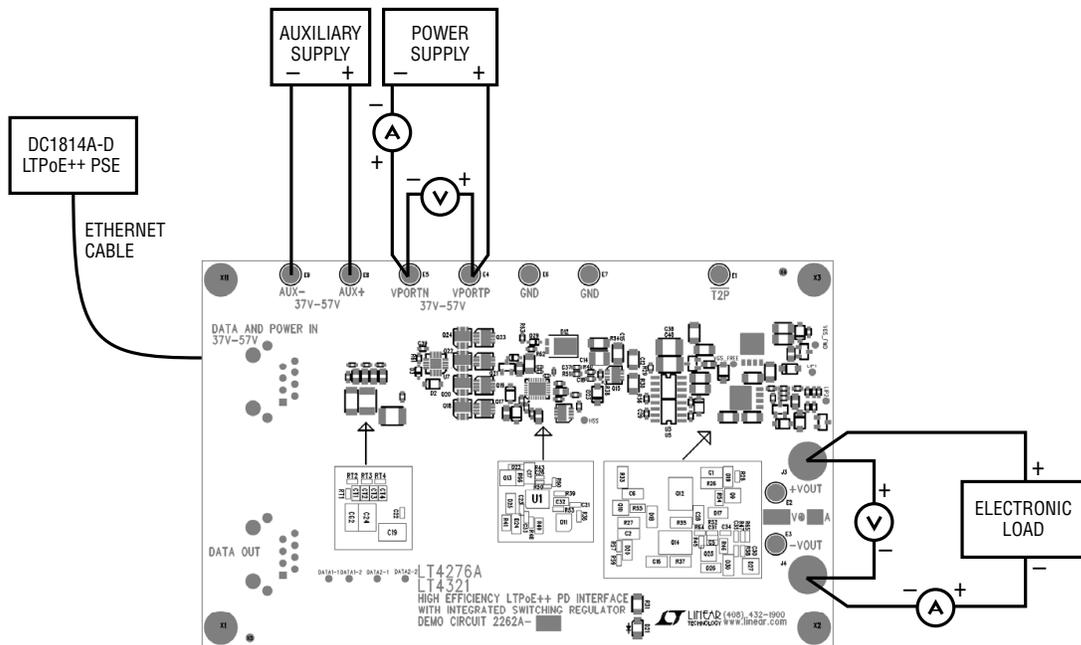

Figure 8. Proper Measurement Equipment Setup
Demonstration circuit 2262A-A is easy to set up to evaluate the performance of the LT4276 in a PoE application. Refer to Figure 8 for proper equipment setup and follow the procedure below:
1. Place test equipment (voltmeters, ammeters, power supplies, and electronic load) as shown in Figure 8.
- b. Or, connect a 37V to 57V capable power supply (“Power Supply” in Figure 8) across VPORTP and VPORTN.
- c. If evaluating the auxiliary power supply (“Auxiliary Supply” in Figure 8), connect a 37V to 57V capable power supply across AUX+ to AUX-.